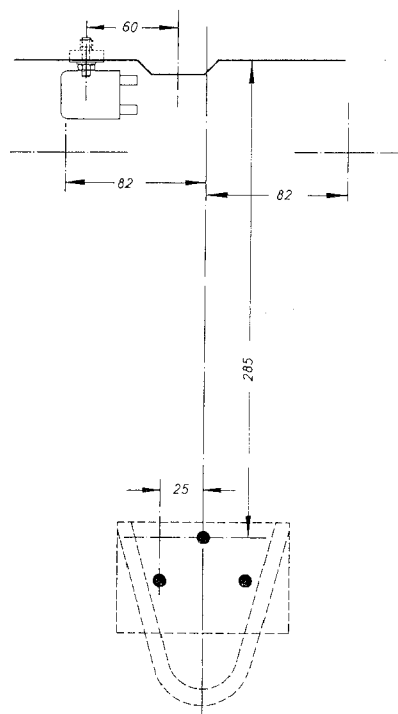

Fig. 8
10. Mark fixing points for rubber-metal bearings for fresh-air blower (see Fig. 8) and bore with a 6.5 mm bore.